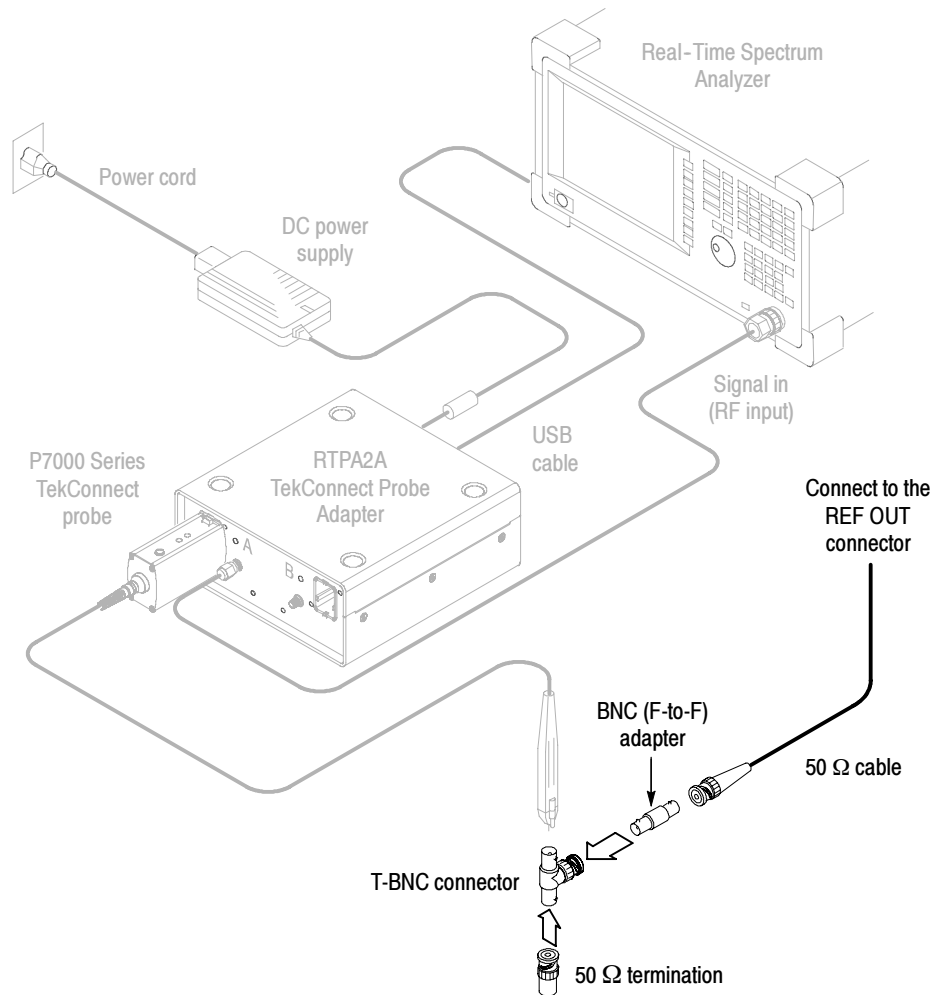

Figure 7: Equipment setup with Real-Time Spectrum Analyzer
- b. Attach the other end of a 50 Ω cable to a BNC (F-to-F) barrel connector. See Figure 7.